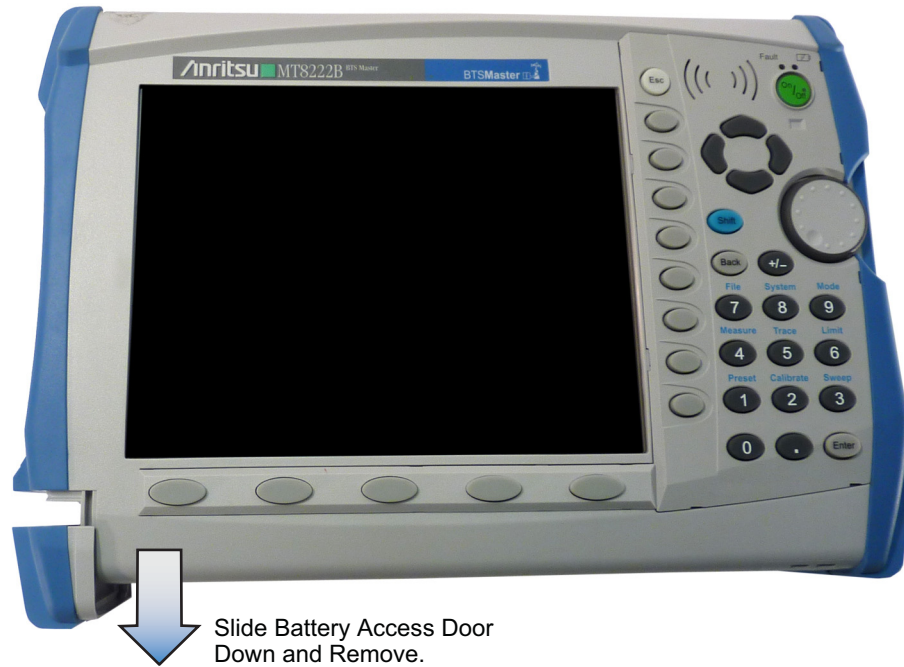

Figure 4-3. Removing the Battery Access Door
3. Remove the battery access door as shown Figure 4-3.